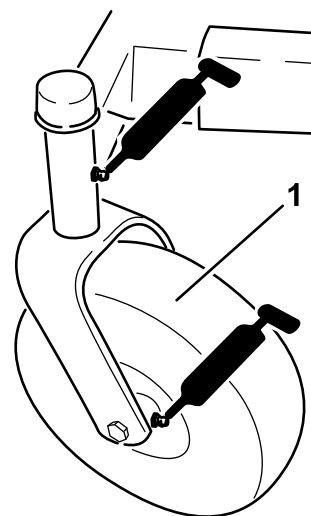
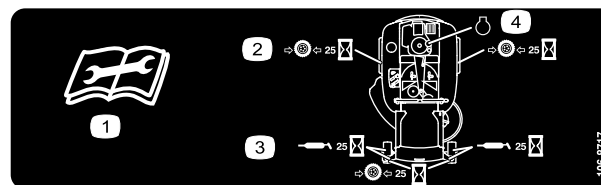

Figure 24
Figure 25
3. Clean the grease fittings (Figure 24 and Figure 25) with a rag. Make sure to scrape any paint off of the front of the fitting(s).
4. Connect a grease gun to each fitting (Figure 24 and Figure 25). Pump grease into the fittings until grease begins to ooze out of the bearings.